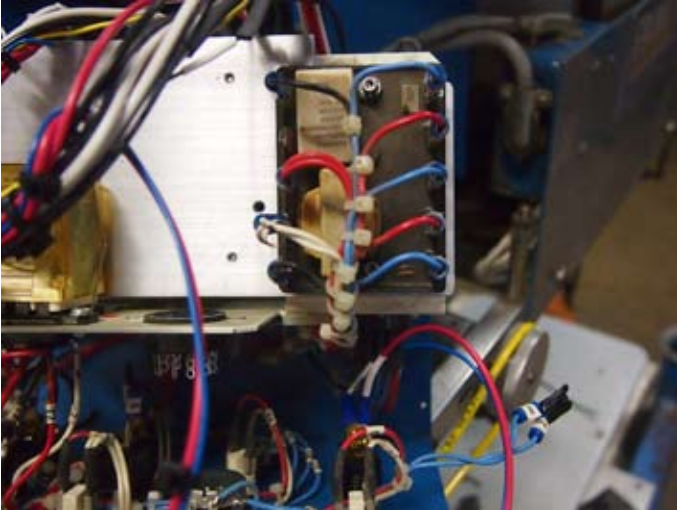
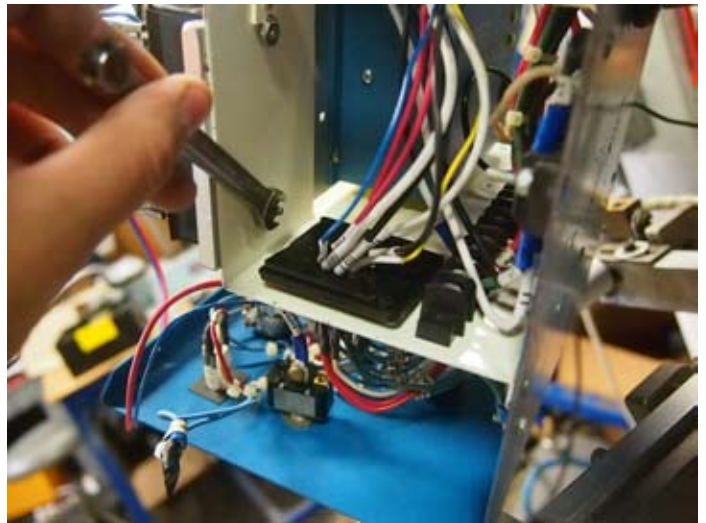

Figure 15
Figure 16
Step 6: Mount Temperature controller with longer screws through the mounting bracket (Figure 15). Install and tighten nuts to hold bracket in place. (Figure 16). Put the control box back into the cover and install the screws. Run the **Daily Checkout** to make sure everything is correct.